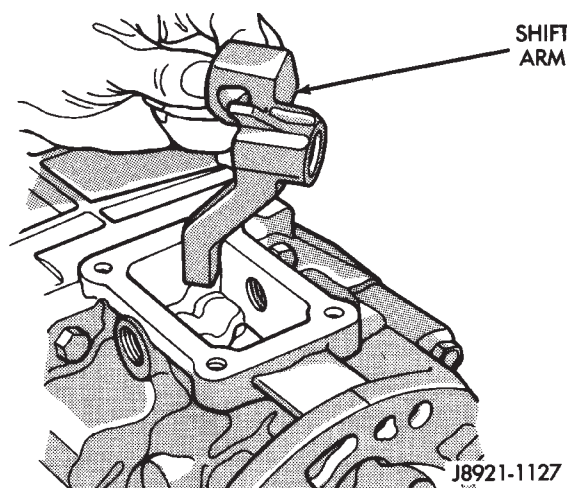

Fig. 39 Position Shift Arm in Adapter or Extension Housing
(10) Position shift arm in shifter tower opening of adapter or extension housing (Fig. 39). Be sure that the shifter arm is engaged into the shift rails.